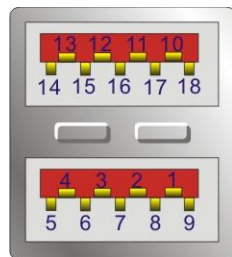

Figure 3-29: External dual USB 3.2 Gen 2 connectors
- CN Location:** See Figure 3-29